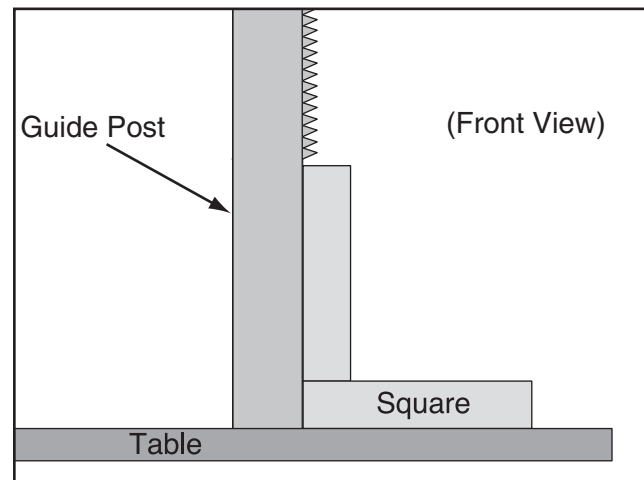

Figure 68. Example of checking guide post squareness.
6. Place a machinist's square on table next to right hand side of guide post, as shown in **Figure 68**.